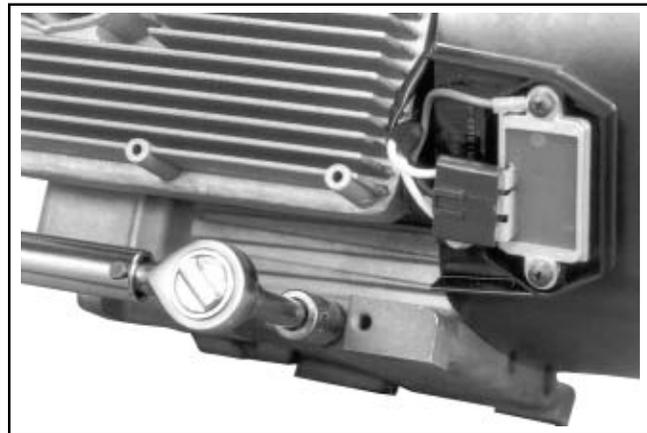

Figure 11-95. Reinstall and Torque Both Oil Drain Plugs.
4. Install the oil drain plugs. See Figure 11-95. Torque the plugs to **13.6 N·m (10 ft. lb.)**.